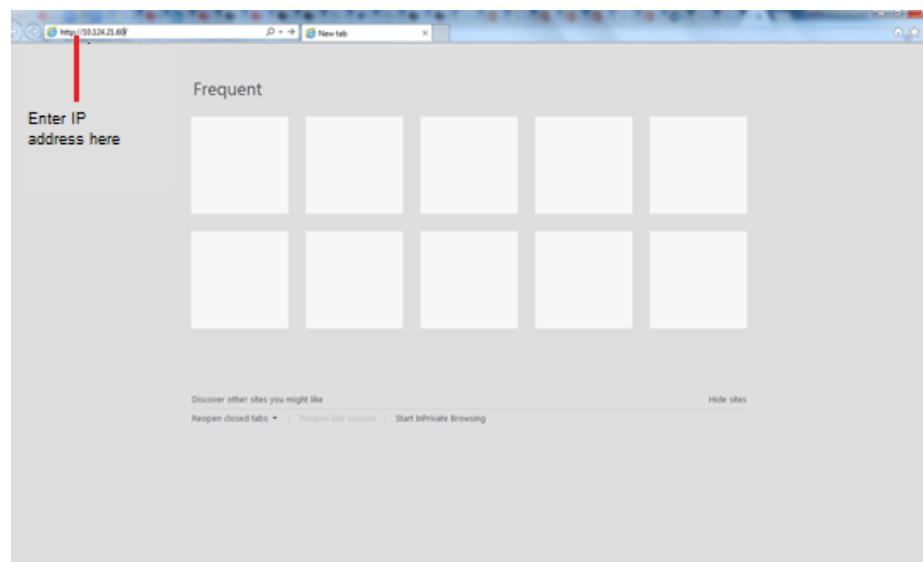

Figure 7. IP Address
1. Type the IP address of the device on Windows Internet Explorer® as `http://<IP address>/` and press the *Enter* key (see Figure 7).